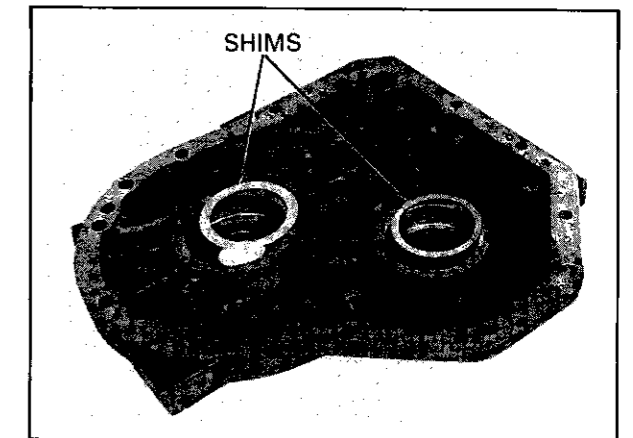

FIG. 45 FRONT COVER SHIM INSTALLATION
54. Assemble shims and bearing cups into the respective bores. Use petroleum jelly to hold cups in position (Fig. 45).